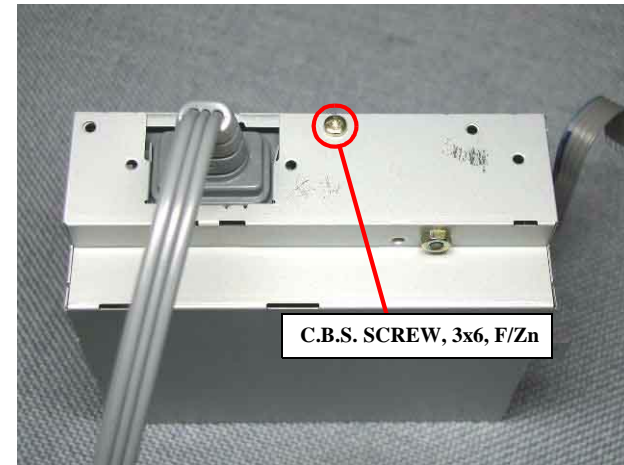

Figure 4-24. Upper power supply board shield plate removal
- Fasten one screw (C.B.S. SCREW 3x6 F/Zn) for securing the Upper power supply shield plate to the Lower power supply shield plate. (Refer to Figure 4-24)